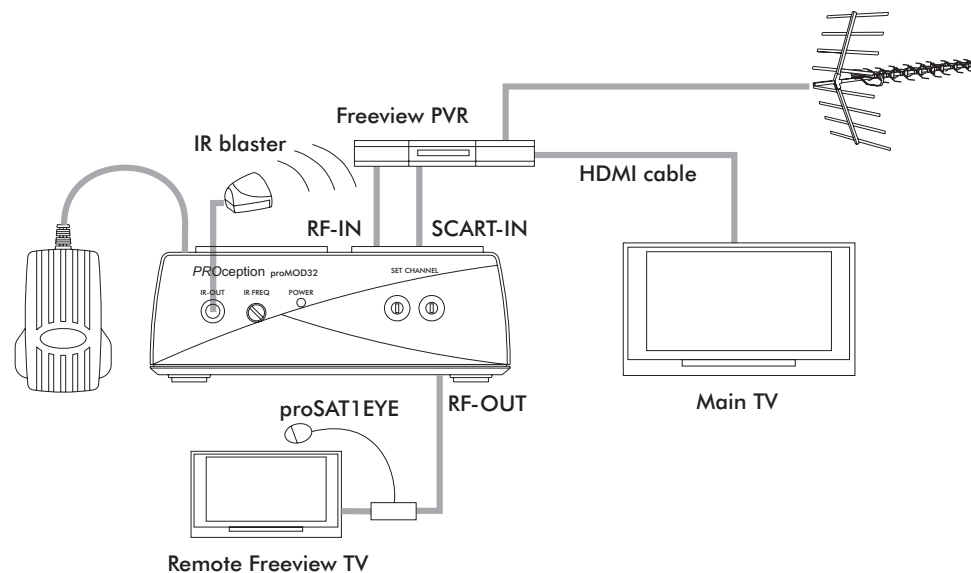
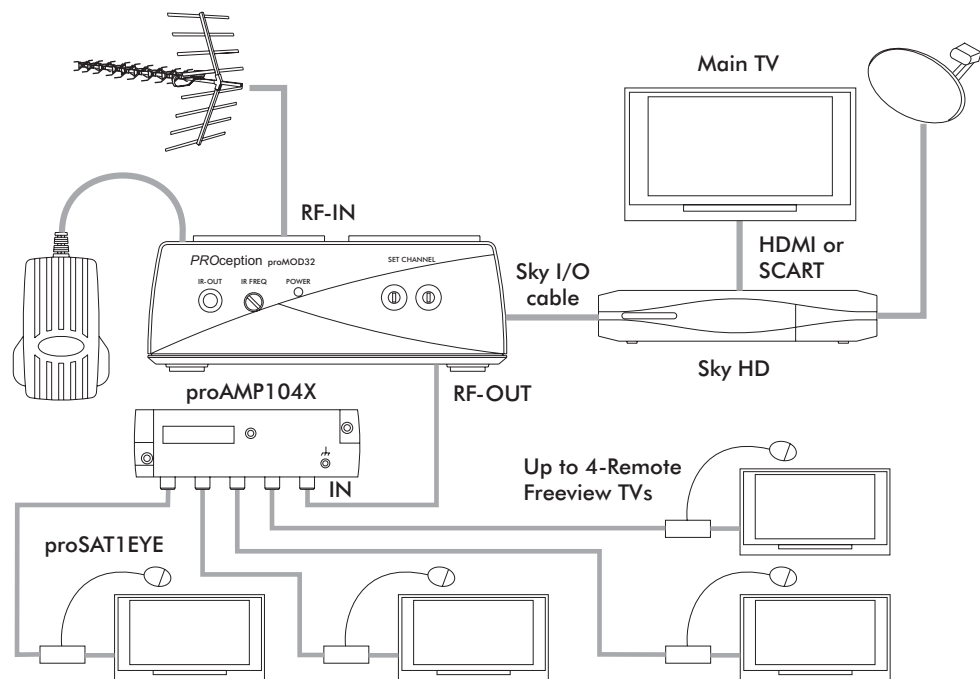

Fig. 5 – Digital terrestrial application with PVR.
Fig. 4 – Sky application with multiple remote rooms.
- Fig. 4 is similar to the Sky system above, with the addition of a 4-way amplifier and additional IR eyes to permit control from any room.
- The system in Fig. 5 is based around a twin-tuner terrestrial PVR with HDMI connection to the TV display. Off-air signals are looped through the PVR and the modulator to the remote room. Since this is a non-Sky application an infrared blaster is required to relay commands to the remote room. An amplifier can be added to this system, as in Fig. 4